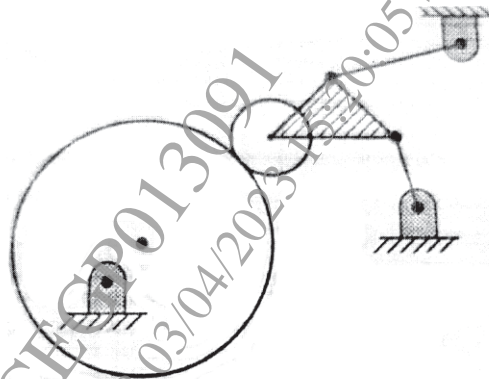

Fig.2
- b)** Define Degree of Freedom and Calculate the number of degrees of freedom of the mechanism as shown in fig. 2. [6]